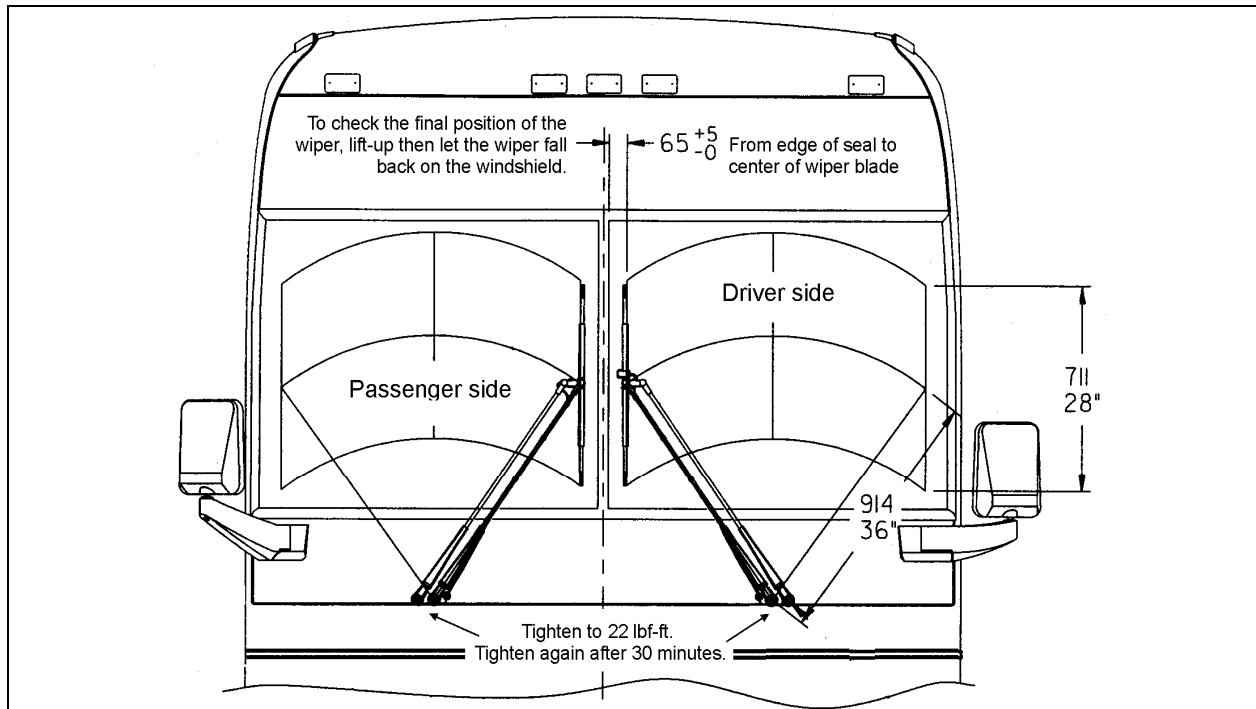

FIGURE 39: WIPER ARMS POSITIONING
1. Reinstall the wiper arms and position as shown in figure 39. Before positioning the wipers at their final position, tighten the nuts to 9 Ft-lbs (12 Nm) at first.